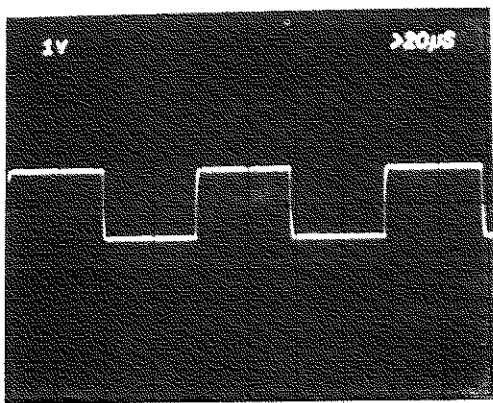

FIGURE 5-5. TYPICAL 10KHz SQUARE WAVE OUTPUT.
3. Check that no oscillations or instabilities are visible on the output waveform shown in Figure 5-5.